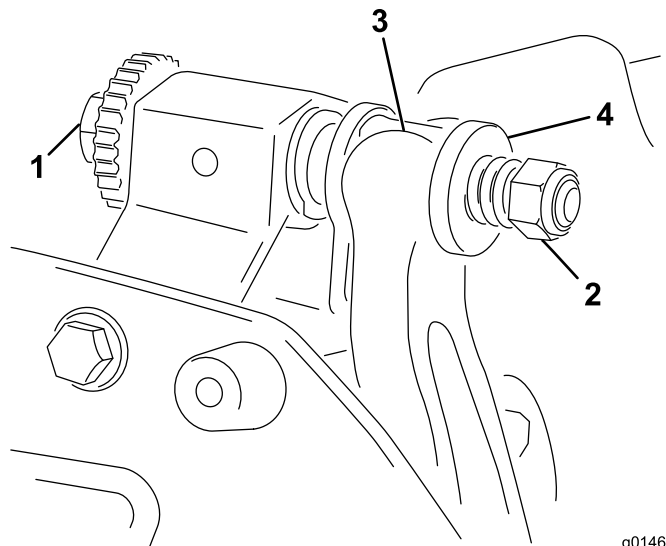

Figure 19
- Turn the bedbar adjusting-screw counterclockwise to back the bedknife away from the reel (Figure 19).
2. Back out the spring-tension nut until the washer is no longer tensioned against the bedbar (Figure 19).